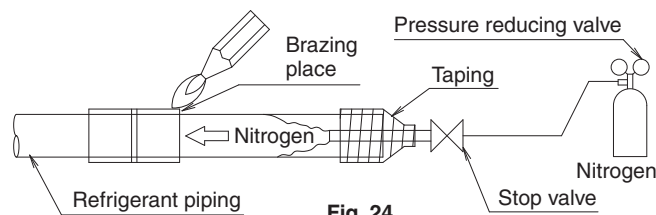

Fig. 24
- Before brazing refrigerant piping, have nitrogen flow through the refrigerant piping and substitute air with nitrogen (NOTE 1). (**Refer to Fig. 24**) Then, carry out brazing (NOTE 2).